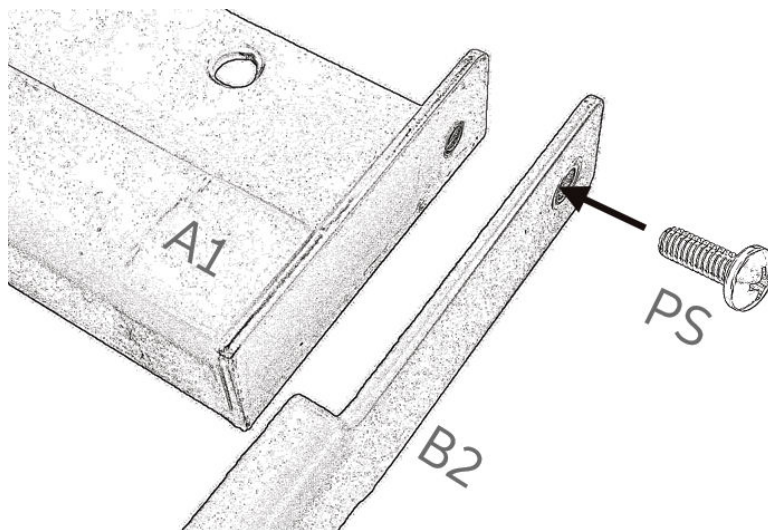

Fig. 3
2. Secure first spreader bar (B1) onto crossbars (A1 & A2) with pan screws (PS) provided, as seen in Figure 3.